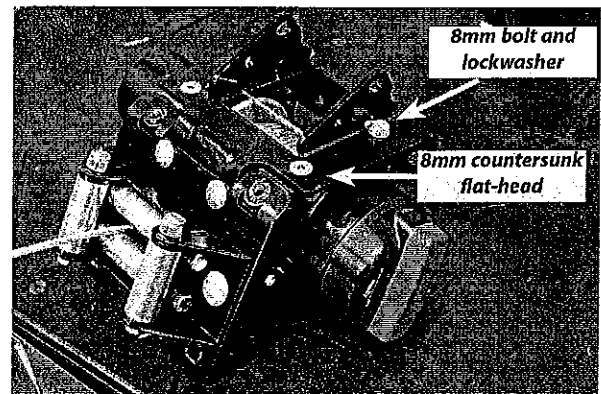

Figure 8a
8. Attach winch to winch mounting plate as shown in Figure 8a.